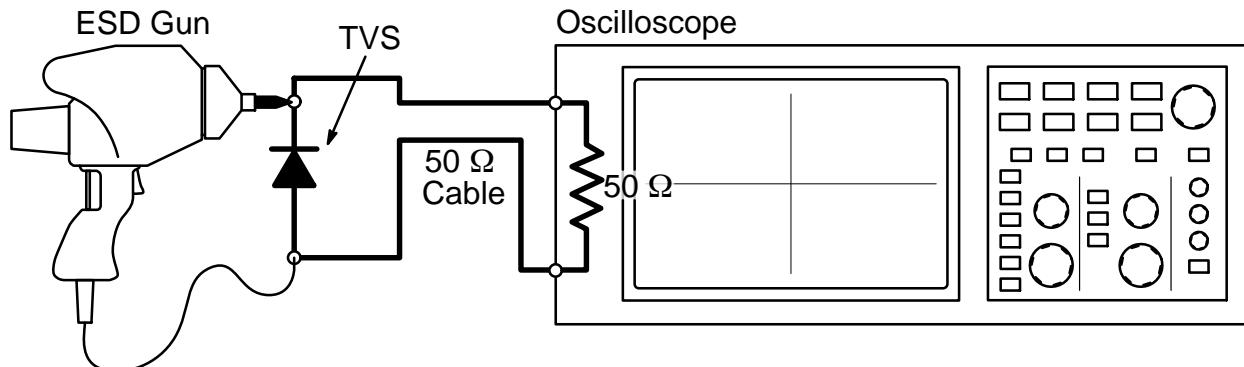

Figure 5. Diagram of ESD Clamping Voltage Test Setup
2. For test procedure see Figure 5 and application note AND8307/D.